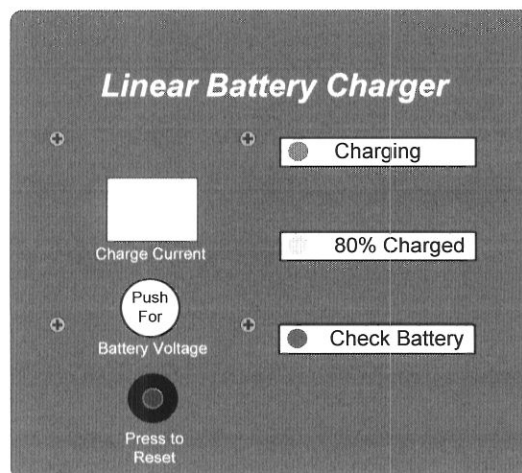

Figure 4-1. Battery Charger Faceplate
- Plug the **EXTENSION CORD** into outlet. Verify that the **GREEN CHARGING** indicator **LED** is lit on the **BATTERY CHARGER FACEPLATE**. Refer to Figure 4-1.
- To display the Battery Voltage, press (push) in and hold the **BATTERY VOLTAGE** button. Refer to Figure 4-1.